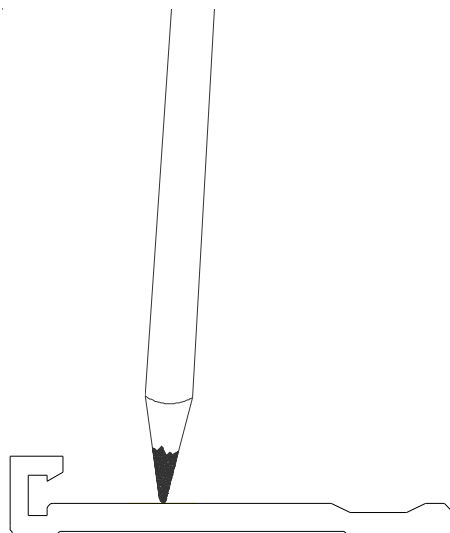

Figure 4
STEP 4. Select a section of the base member subchannel. If the anchor holes have not been pre-drilled into the base members at the factory, mark the locations for the anchor holes on the base member (see Figure 4). Anchors are spaced 20" o.c. with anchors at a nominal 3" from either end of the base member.